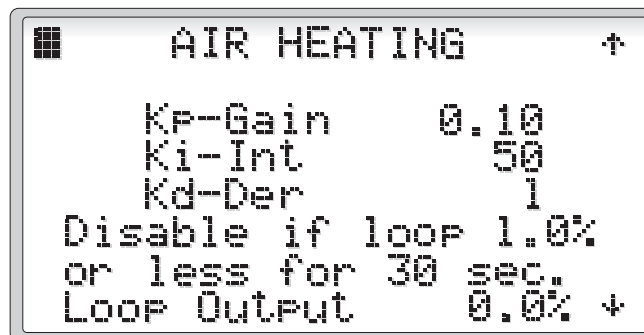

Figure 46
2.3.3.5.3 Tuning – Air Heating (Figure 46)